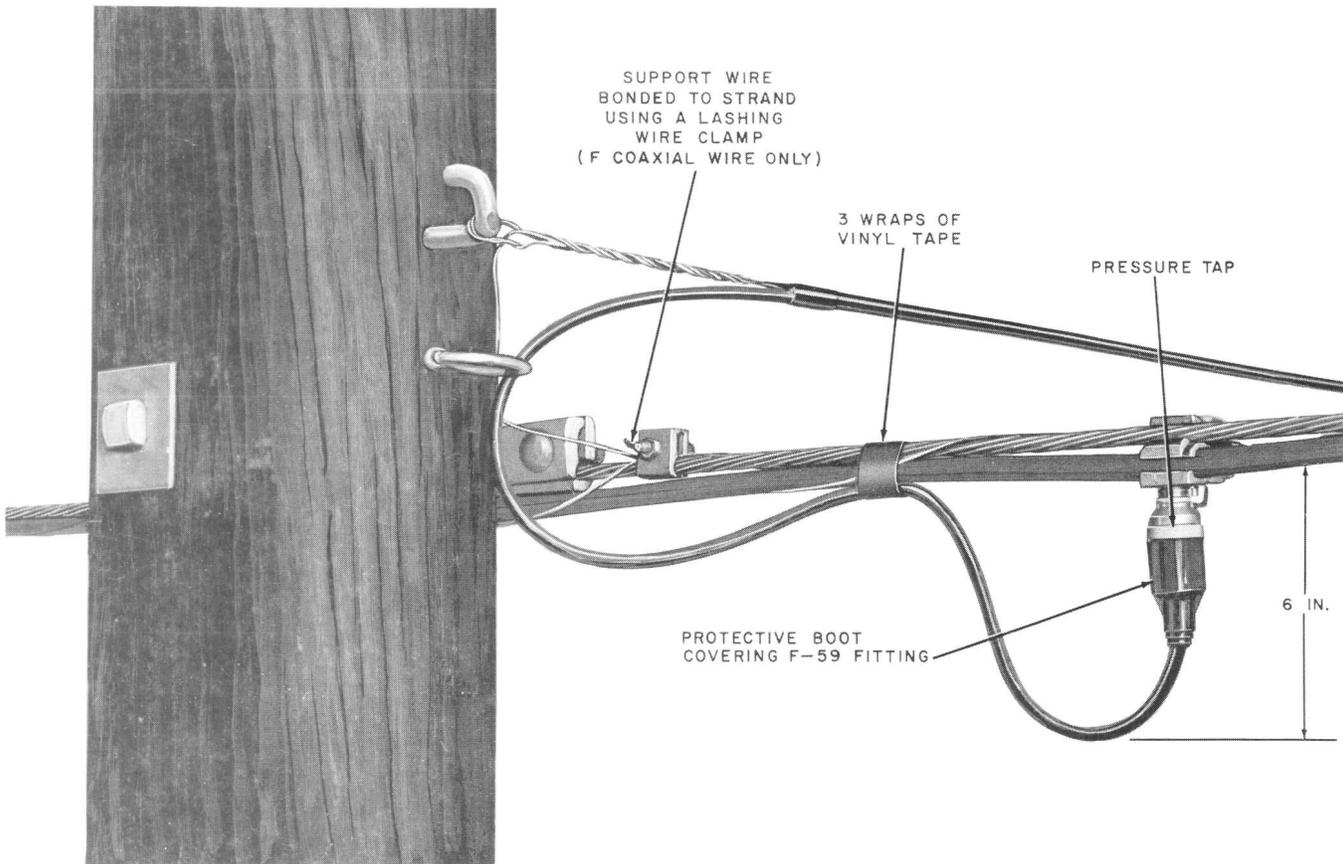
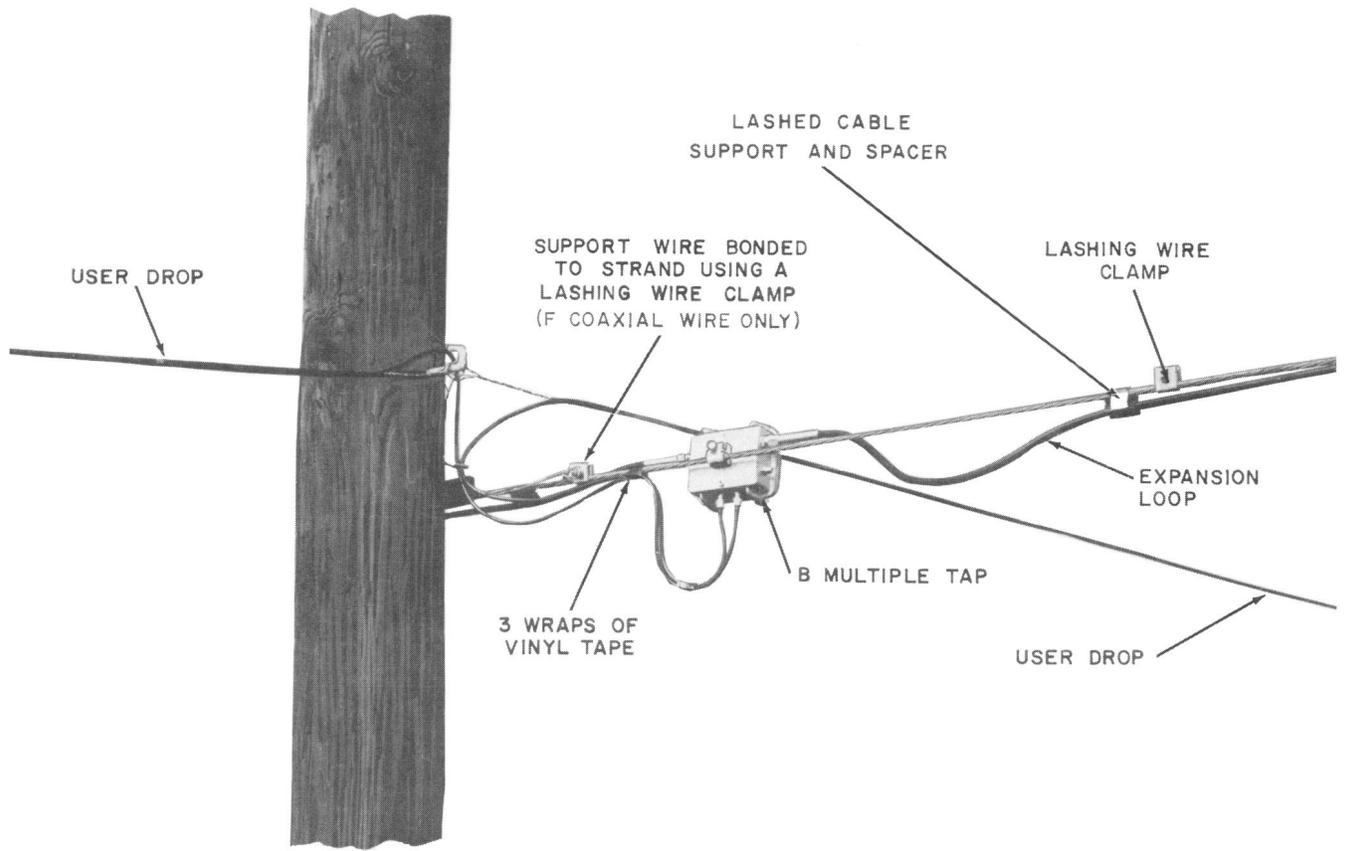

Fig. 18—Completed Connection at Pressure Tap
Fig. 19—Completed Connection at B Multiple Tap
9.04 Connect the F-59 connector to the pressure tap (Fig. 18) or multiple tap (Fig. 19). The wire from the connector must be formed into a slack loop which extends at least 6 inches below the strand.